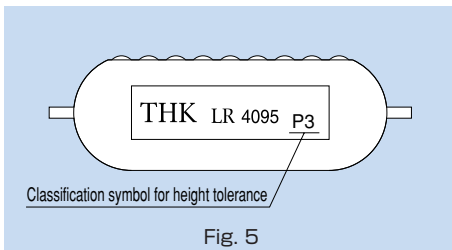

Fig. 5
By attaching this spring pad to the back of the LM Roller as shown in Fig. 5-④ on page i-10 in the "THK General Catalog - Product Specifications," provided separately, and turning the adjustment bolt, adjustment of a clearance and a preload can easily be done.
When multiple LM Roller units are arranged on the same plane, the mounting heights of the LM Roller units must be identical in order to achieve uniform load distribution. The dimensional tolerance of the LM Roller in height (A) is defined as indicated in table 4. When ordering LM Roller units to be used on the same plane, specify their tolerances with the same classification symbol. Each classification symbol is marked on the package box and on the side face of the LM Roller's raceway base as indicated in Fig. 5 (except for normal class).